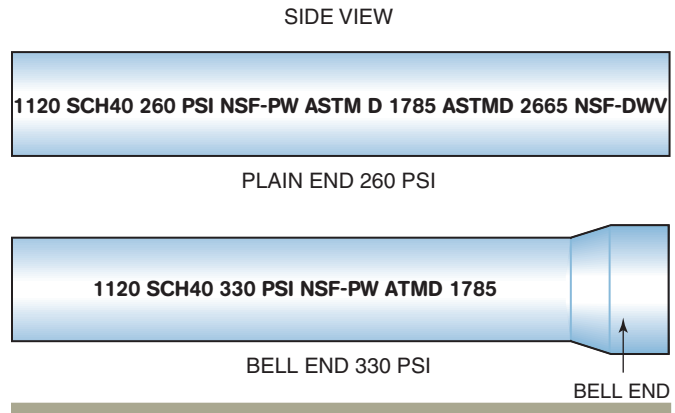

FIGURE 3-2 Schedule 40 solid-core PVC pipe used for pressure and gravity systems.
in residential applications is white. The color of a thin-walled PVC for sewer installations is green, and it uses a push-on rubber o-ring connection as opposed to a solvent-weld connection. A plumber must always review manufacturer's identification markings to ensure proper use of any product. PVC can be subjected to more household chemicals than most other kinds of pipe. Long-term exposure to ultraviolet (UV) rays can damage most types of PVC pipe; therefore, it should be covered with pipe insulation or painted according to manufacturer's instructions, which typically dictate that water-based latex paint should cover the exposed areas. Some available PVC piping products have stabilizers and UV inhibitors to protect against long-term UV exposure. Figures 3-2 through 3-5 show various kinds of PVC pipes used in the residential plumbing industry.